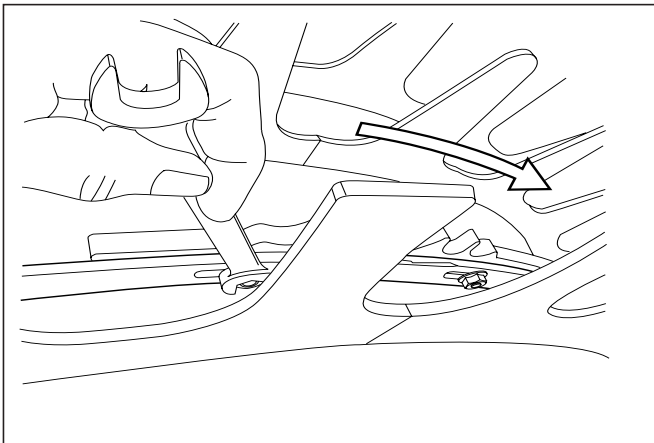

Figure 41 Moving teeth sections
5. Reposition the teeth sections on the drum. Loosen each section then slide to the right (counterclockwise as shown in figure 41) in the adjustment slot.